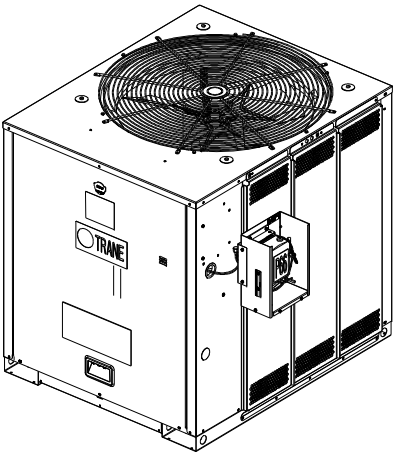

FIGURE 1
1. REMOVE SNAP PLUG IN SIDE OF UNIT AND PLACE BUSHING (PROVIDED) IN SIDE OF UNIT WHERE HEAD PRESSURE ENCLOSURE IS MOUNTED. SEE FIG. 1.